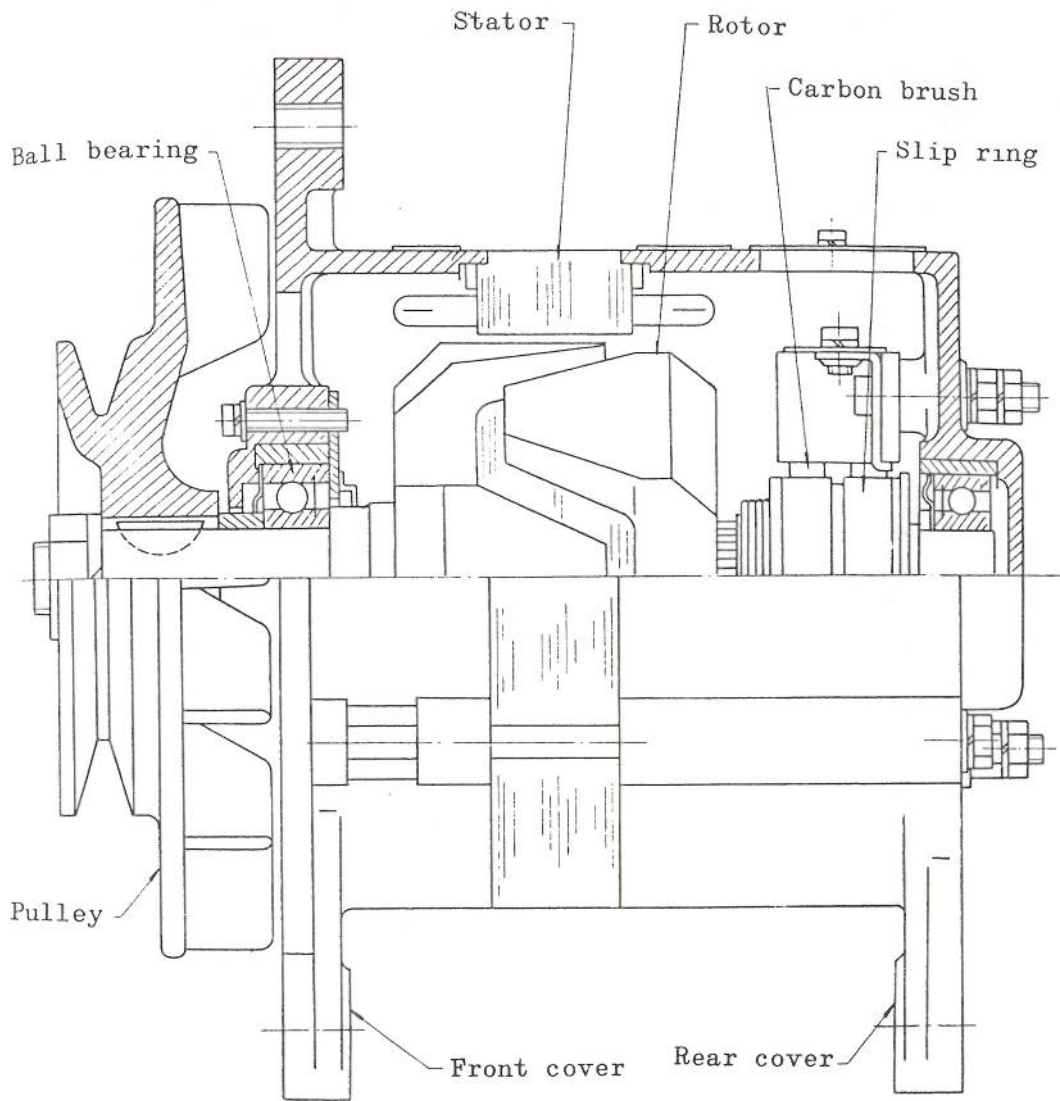

Fig. 10-6
(1) Alternator
The construction of the alternator model LT 123-16 is illustrated in Fig. 10-6. The alternator comprises a rotor, a stator, a front cover, a rear cover and a pulley. The rear cover is provided with six (6) silicon diodes which serves to rectify the current generated by the alternator to DC.
(2) Voltage regulator